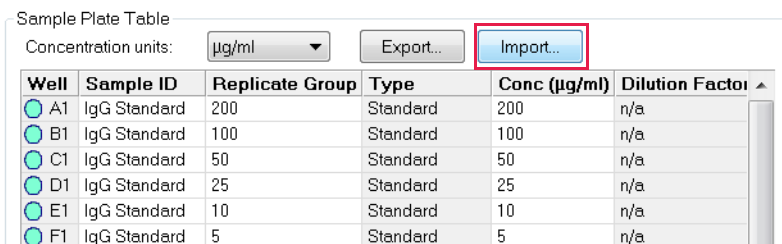

Figure 5-23: Import Button in Sample Plate Table
1. In the **Sample Plate Table** (see Figure 5-23), click **Import**.